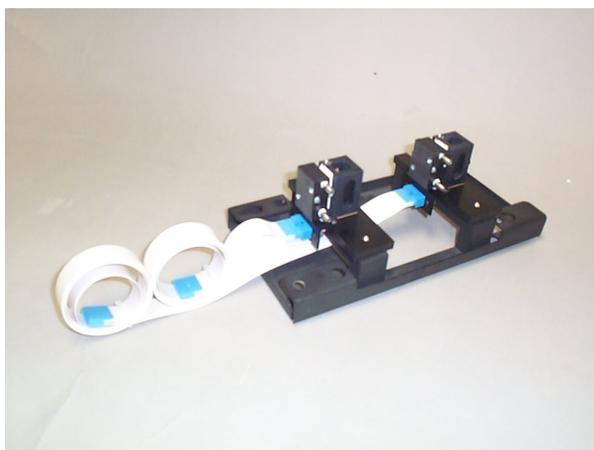

Figure 2 The Peltier Cell Holders fitted to the cell holder
- 3 Fit the Peltier cell holders to the cell holder base (refer to your Cary hardware manual for further details). Pull the flat ribbon cables under the Peltier cell holders. The flat ribbon cables and the Peltier cell holders connect as shown in Figure 2.